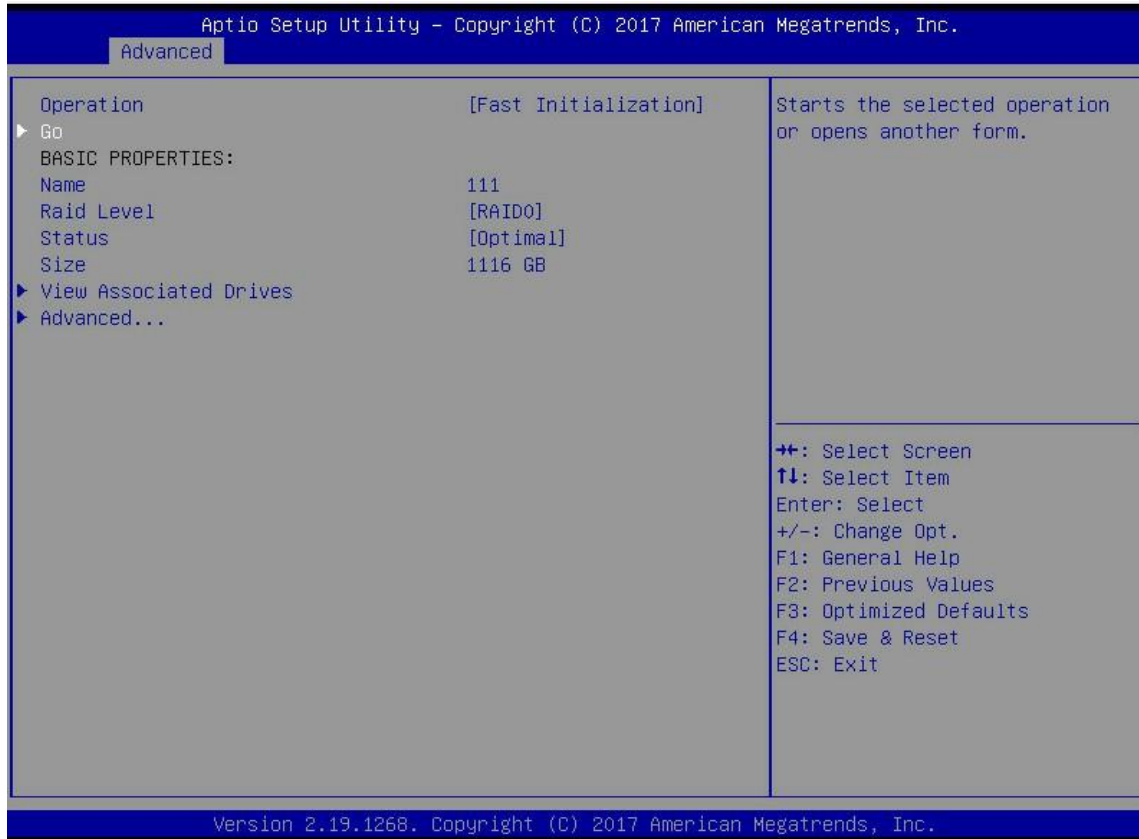

Figure 6-44
d) Enter the interface shown in figure 6-44, select go and press enter.